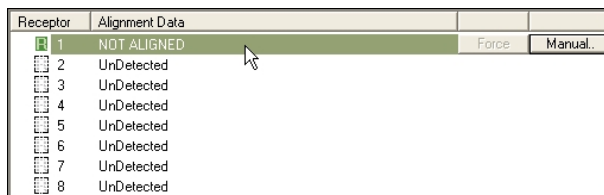

Figure 1-34: Select Anchor Receptor
1.5.7 For this Getting Started procedure, Receptor 1 appears as detected and not aligned (R NOT ALIGNED). Click on this receptor entry as depicted in Figure 1-34 to select it as the “anchor receptor”.